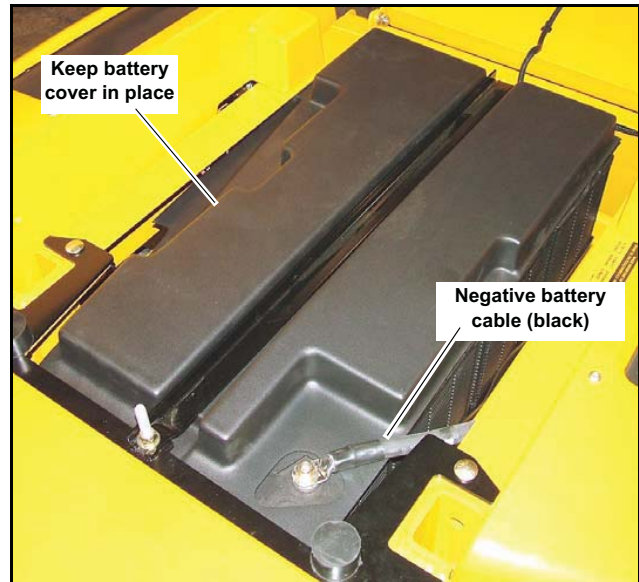

Fig. 5-4
The battery connectors are located under the seat. Always disconnect the main negative battery cable before performing maintenance on the unit. This is the only black battery cable attached to the battery pack. It can be disconnected without removing the battery cover. Fig. 5-4
4. Disconnect the negative (black) cable from the battery pack. Fig. 5-4